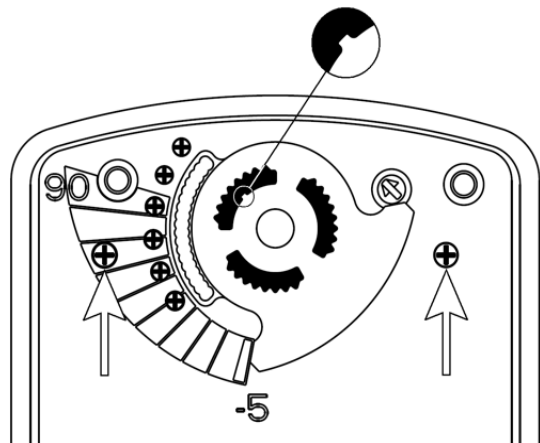

Figure 5: Washer orientation on actuator and location of mounting holes
4. Locate the actuator mounting holes that are located under the label at the  symbol printed on the label, shown in Figure 5.